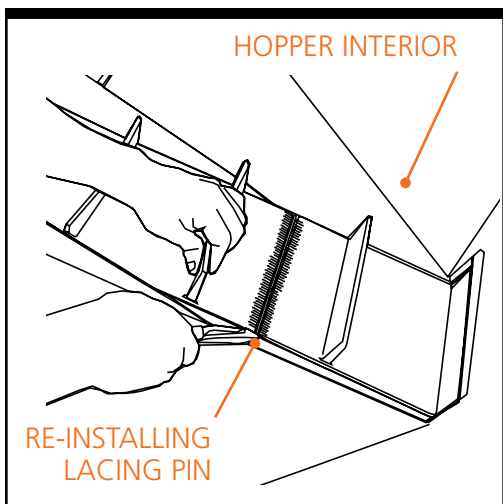

Figure 3-11. Re-Installing Lacing Pin
Step 2–Install Belt. Install the belt by feeding it through the prefeeder's hopper (downward), up the underside of the elevator channel, through the head, and back down the elevator channel into the hopper, cleats facing up. The belt lacings on both ends of the belt, should meet in the hopper area of the prefeeder (see Figure 3-11). You may need to remove the elevator covers (underside of the prefeeder channel) to feed the belt. Once the belt is completely fed into the prefeeder, and the lacing pin installed, replace the elevator covers.